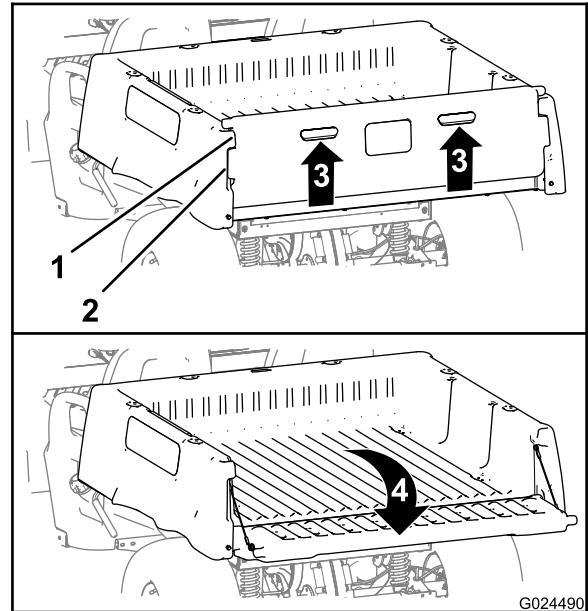

Figure 14
2. Lift up the finger pulls at the back panel of the tail gate (Figure 14).
3. Align the lock flanges of the tailgate with the openings between the tailgate flanges of the cargo box (Figure 14).
4. Rotate the tailgate rearward and down (Figure 14).
6. Rotate the tailgate up and forward until the lock flanges of the tailgate are flush with the tailgate pocket in the cargo box (Figure 14).
7. Lower the tailgate until it is seated in the back of the cargo box (Figure 14).